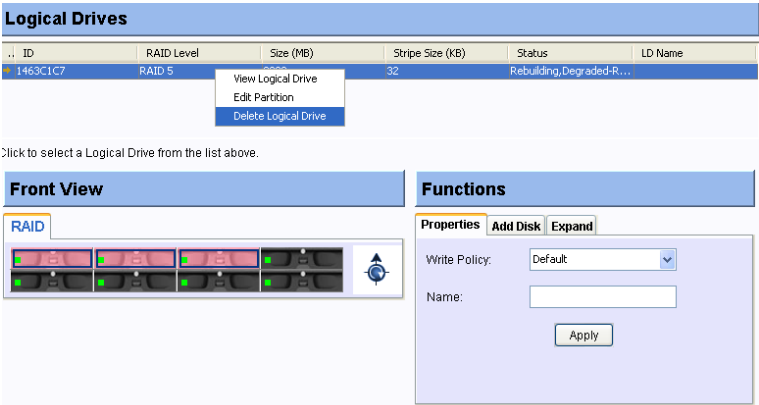

Fig. 9.12 Displaying the Logical Drive Command Menu
1. Select the logical drive you wish to remove with a single mouse-click. Right-click on the adjacent screen area. A command menu will prompt as shown in *Figure 9.12*.